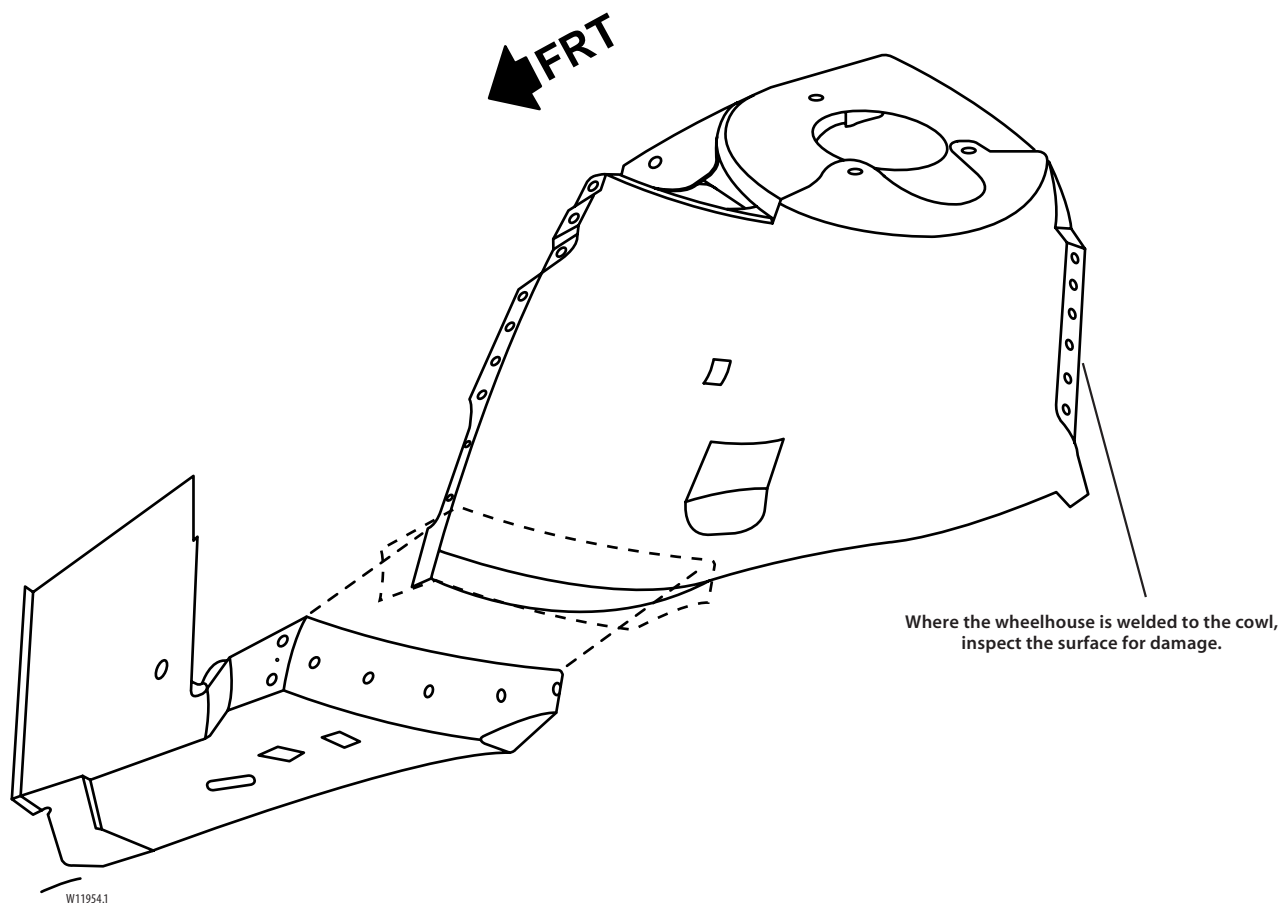

Figure 4-1:
The front wheelhouse service panel is available as a complete assembly, which includes the upper front strut mounting surface (figure 4-1).
2. Drill 8mm ($\frac{5}{16}$ inch) plug weld holes as necessary in the locations noted from the original assembly (figure 4-1). NOTE: If original locations are damaged beyond recognition, locate holes for plug welding 40mm (1½ inches) apart.